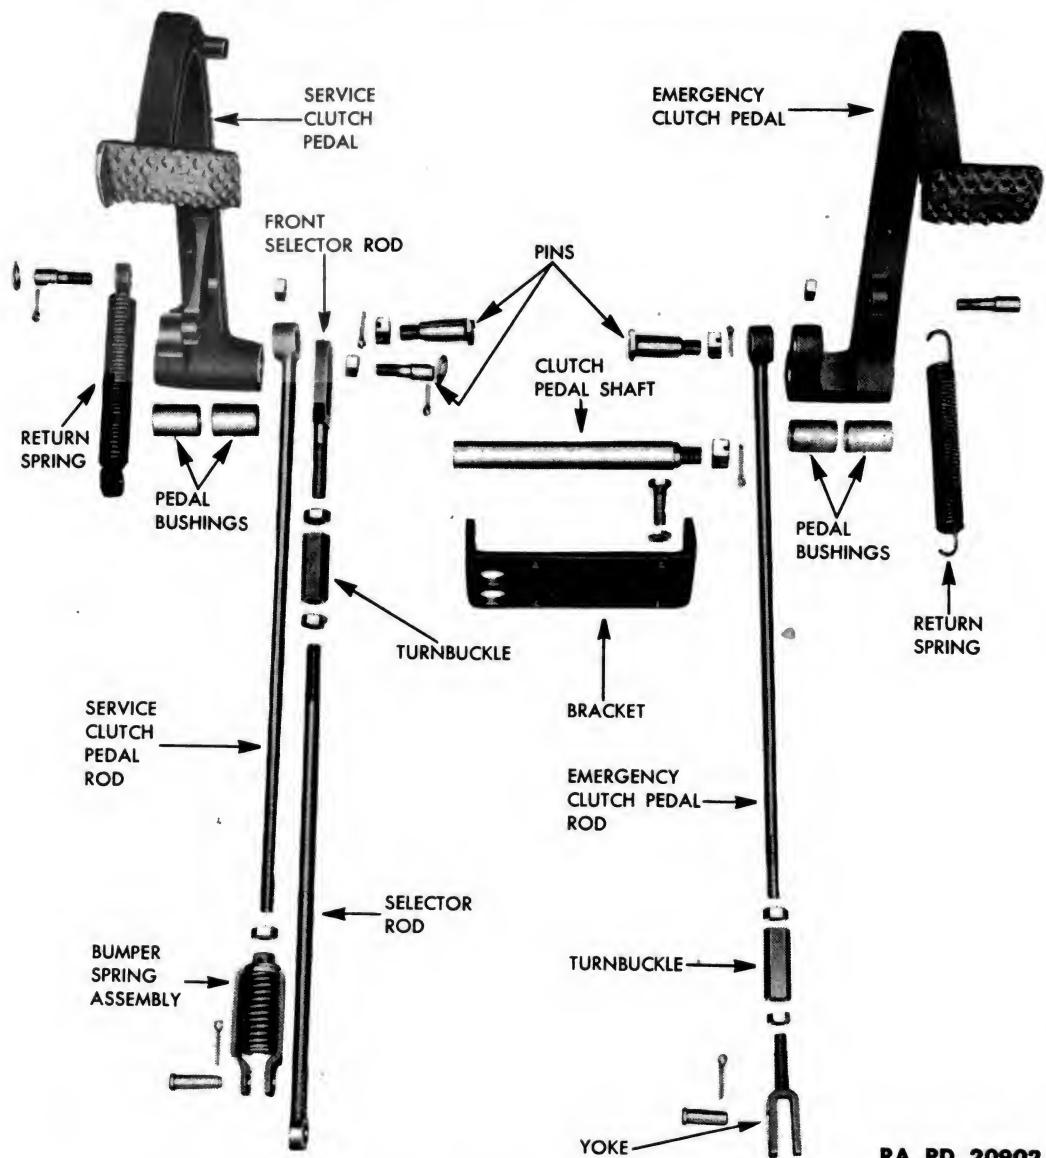

Figure 173 — Clutch Pedals and Rods Disassembled
a. Clean and Inspect (fig. 173).
- (1) Clean all parts with dry-cleaning solvent, and dry with compressed air.
- (2) Inspect oilite bushings in clutch pedals, and replace if excessively worn. Inside diameter of new clutch pedal bushings is 1.1251 to 1.1268 inches.
- (3) Inspect oilite bushings in power cylinder lever, and replace if excessively worn. Inside diameter of new power cylinder lever bushings is 1.0020 to 1.0025 inches.
- (4) Inspect pin holes in clutch pedal rods and power cylinder lever for wear. Replace with new rods or lever if pin holes are excessively worn.
- (5) Inspect bumper spring on service clutch pedal rod, and replace with new bumper spring assembly, if broken.
b. Repair (fig. 173).
- (1) CLUTCH PEDAL BUSHINGS. Supporting pedal on its side, drive out both bushings. Drive new bushings into both ends of hole until flush, with differential and final drive housing cover steering lever bushing remover and replacer (41-R-2375-430).
- (2) POWER CYLINDER LEVER. Supporting lever on its side, and using a long rod or drift, drive bushing out lower side. Turn lever over and drive second bushing out. Drive new bushings into lever with a 1.0023 to 1.0028-inch removing and replacing tool until flush with face of lever hub.